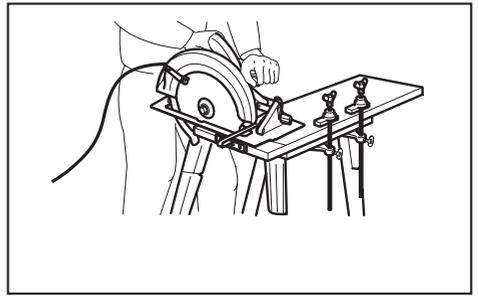

Fig. 4
15. **When operating the saw, keep the cord away from the cutting area and position it so that it will not be caught on the workpiece during the cutting operation.** Operate with proper hand support, proper workpiece support, and supply cord routing away from the work area. **WARNING:** It is important to support the workpiece properly and to hold the saw firmly to prevent loss of control which could cause personal injury. Fig. 4 illustrates typical hand support of the saw.